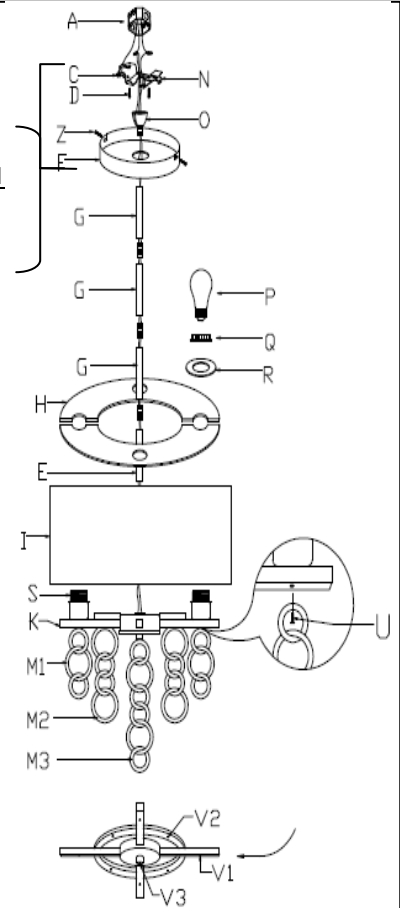

Fig.1-1
- Install the shade (I) onto the socket holders. Align the diffuser (H) to the socket holders (S) and secure with washers (R) and screw shell (Q). The diffuser should set as show in Fig.1-1 (top view).
- This fixture includes 1 x 6" rod 3 x 12" rods. Determine the desired hanging height and attach rods (G) to fixture body (K). Feed the fixture wires carefully through each rod during assembly.
- Next place canopy (F) over rods (G) and thread hanger ball (O) to rod (G). Please remove the nipple if installing with one 6" rod only.
- Attach the circular plate (N) to the junction box (A) with screws (D) (size: #5/32"-32*0.5"L.).
- While holding the fixture body, install the fixture into the mounting plate (N) by tilting at a slight angle so that the hanger ball (O) slips into the mounting plate (N) as shown. Align the notch in the hanger ball (O) to the tab on the mounting plate (N) to prevent the fixture from turning.